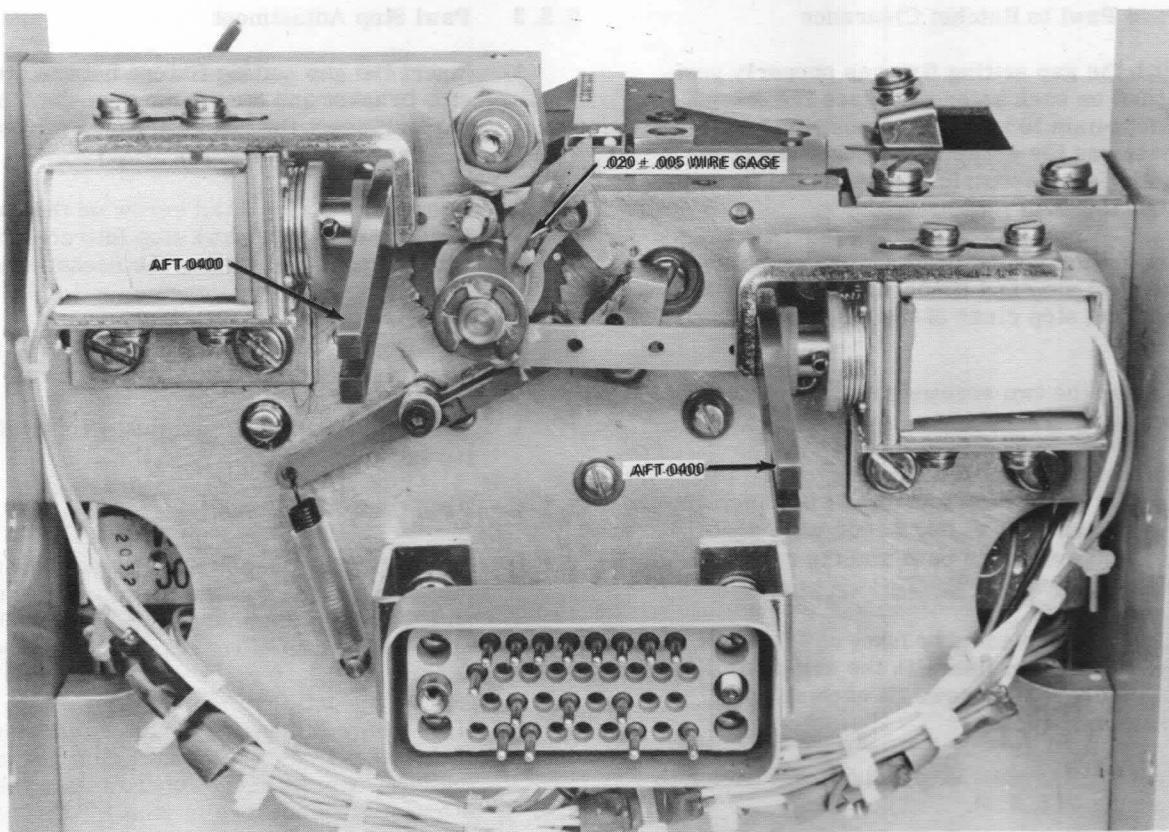

Figure 5-6 Transport Solenoid Adjustment
2. Insert gap setting fixture Part No. AFT-0400 (Figure 5-6) between stop bracket and plunger Buffer on each transport solenoid and compress the solenoid return spring. Slide the stop bracket back against fixture and tighten transport stop mounting screws. Repeat procedure for remaining transport solenoid.